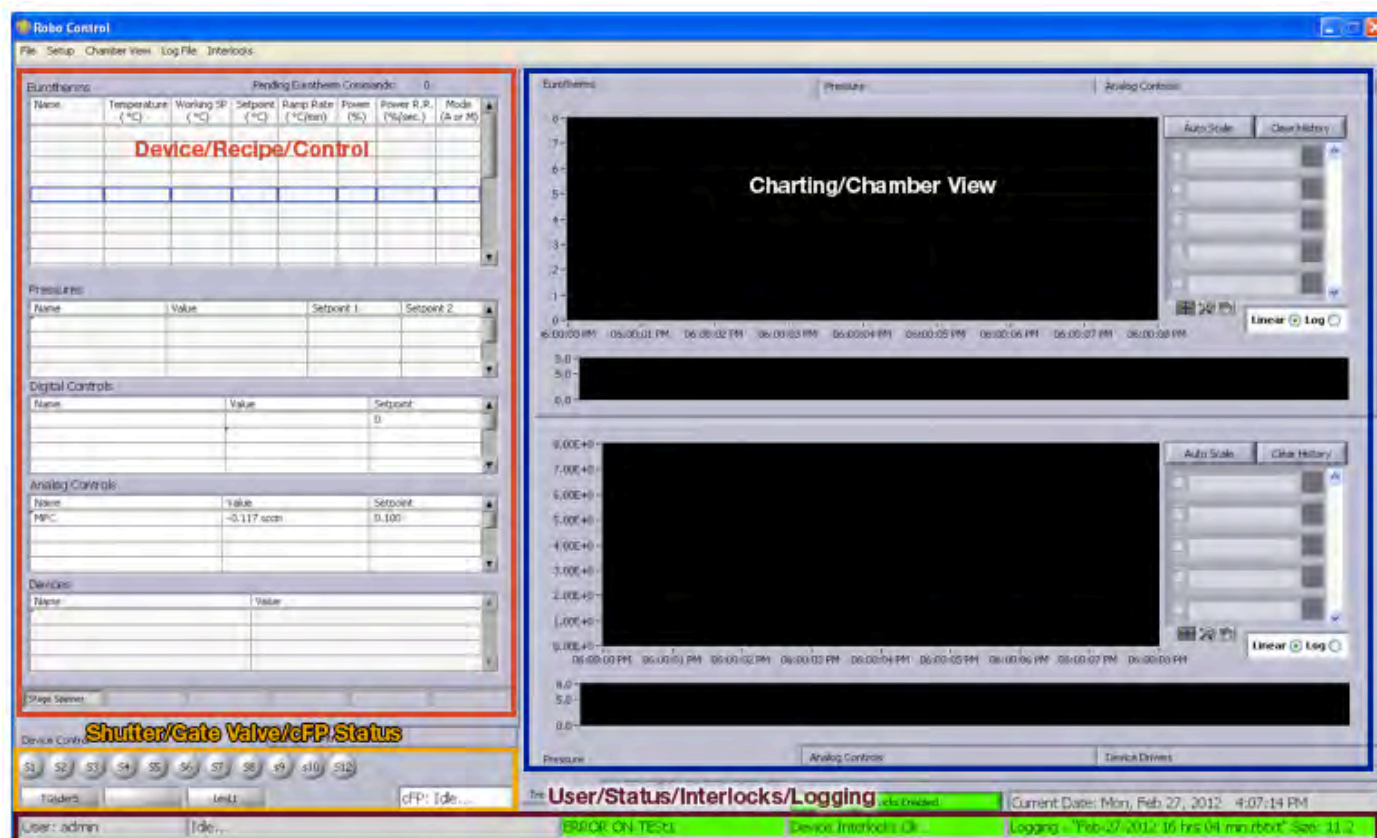

Figure 5 – Robo Main Screen Layout
2. User/Status/Interlocks/Logging section, as shown in Figure 5.